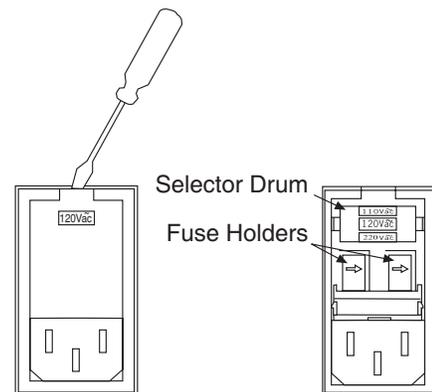

Figure 62. Power Input Module
1. As shown in Figure 62, place the flat side of a flat bladed screwdriver parallel to the back of the Controller and behind the small tab at the top of the power module, and twist the screwdriver slowly but firmly to pop the module open.